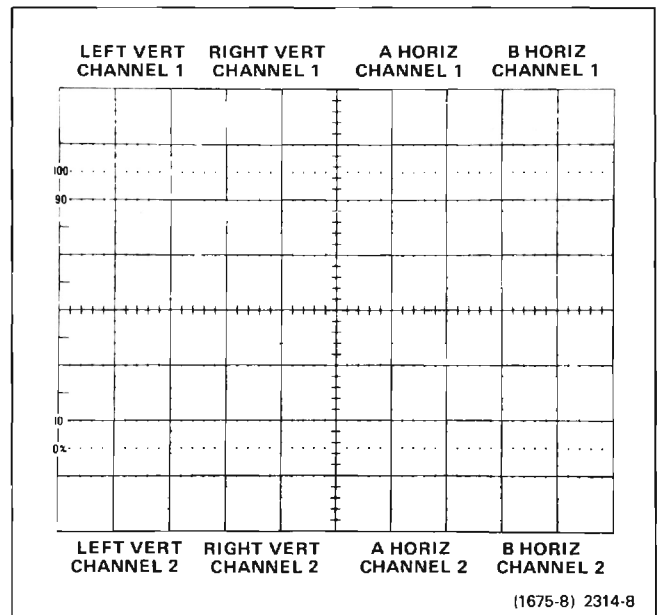

Figure 3-8. Location of readout display on the crt identifying the originating plug-in and channel.
Frame—A display of all words for a given operating mode and plug-in combination. Up to 8 words can be displayed in one frame. Figure 3-8 shows the position of each word in a complete frame.
Up to 8 words of readout information can be displayed on the crt. The position of each word is fixed and is directly related to the plug-in unit from which it originated. Figure 3-8 shows the area of the graticule where the readout from each plug-in unit is displayed. Notice that Channel 1 of each plug-in unit is displayed within the top division of the crt and Channel 2 is displayed directly
The Format Generator stage provides the output signals to the vertical and horizontal deflection systems of the instrument to produce the character display. The binary Channel Address Code from the Channel Counter stage is connected to this stage, so that the display from each channel is positioned to the area of the crt associated with the plug-in and channel originating the word (see Fig. 3-8). The positioning current or decimal point location current generated by the Decimal Point Logic and Character Position Counter stage is added to the Horizontal (X) signal at the input to the Format Generator stage to provide horizontal positioning of the characters within each word. The X- and Y-Readout signals are connected to the Horizontal Amplifier and Vertical Amplifier through the X- and Y-Buffer stages.